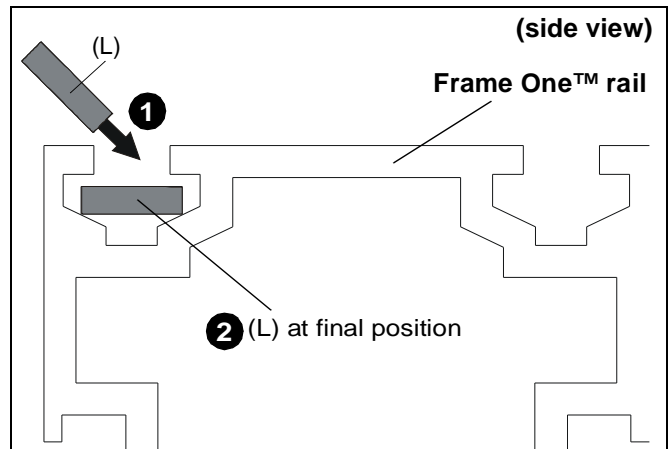

Figure 7
1. Drop channel plate (L) at an angle into front groove of FrameOne™ rail. (See Figure 7)
2. Make sure channel plate (L) lays flat in rail and slide plate until it is at desired mounting position. (See Figure 7)